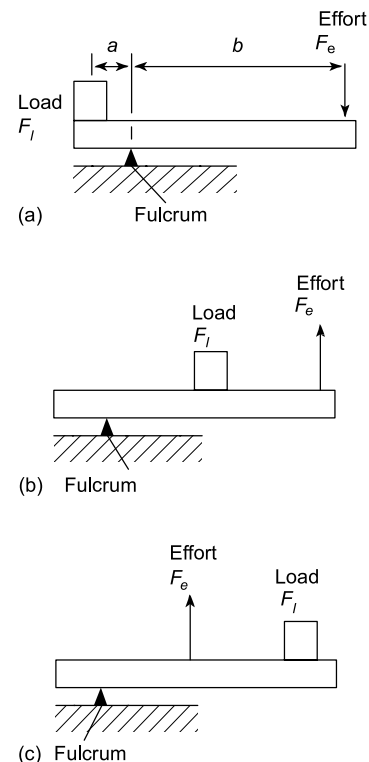

Figure 19.7
A **lever** can alter both the magnitude and the line of action of a force and is thus classed as a simple machine. There are three types or orders of levers, as shown in Figure 19.7.
A lever of the first order has the fulcrum placed between the effort and the load, as shown in Figure 19.7(a).
A lever of the second order has the load placed between the effort and the fulcrum, as shown in Figure 19.7(b).
A lever of the third order has the effort applied between the load and the fulcrum, as shown in Figure 19.7(c).
Problems on levers can largely be solved by applying the principle of moments (see Chapter 5). Thus for the lever shown in Figure 19.7(a), when the lever is in equilibrium,
**Problem 9.** The load on a first-order lever, similar to that shown in Figure 19.7(a), is 1.2 kN. Determine the effort, the force ratio and the movement ratio when the distance between the fulcrum and the load is 0.5 m and the distance between the fulcrum and effort is 1.5 m. Assume the lever is 100% efficient.
A second-order lever system is shown in Figure 19.7(b). Taking moments about the fulcrum as the load is just moving, gives: